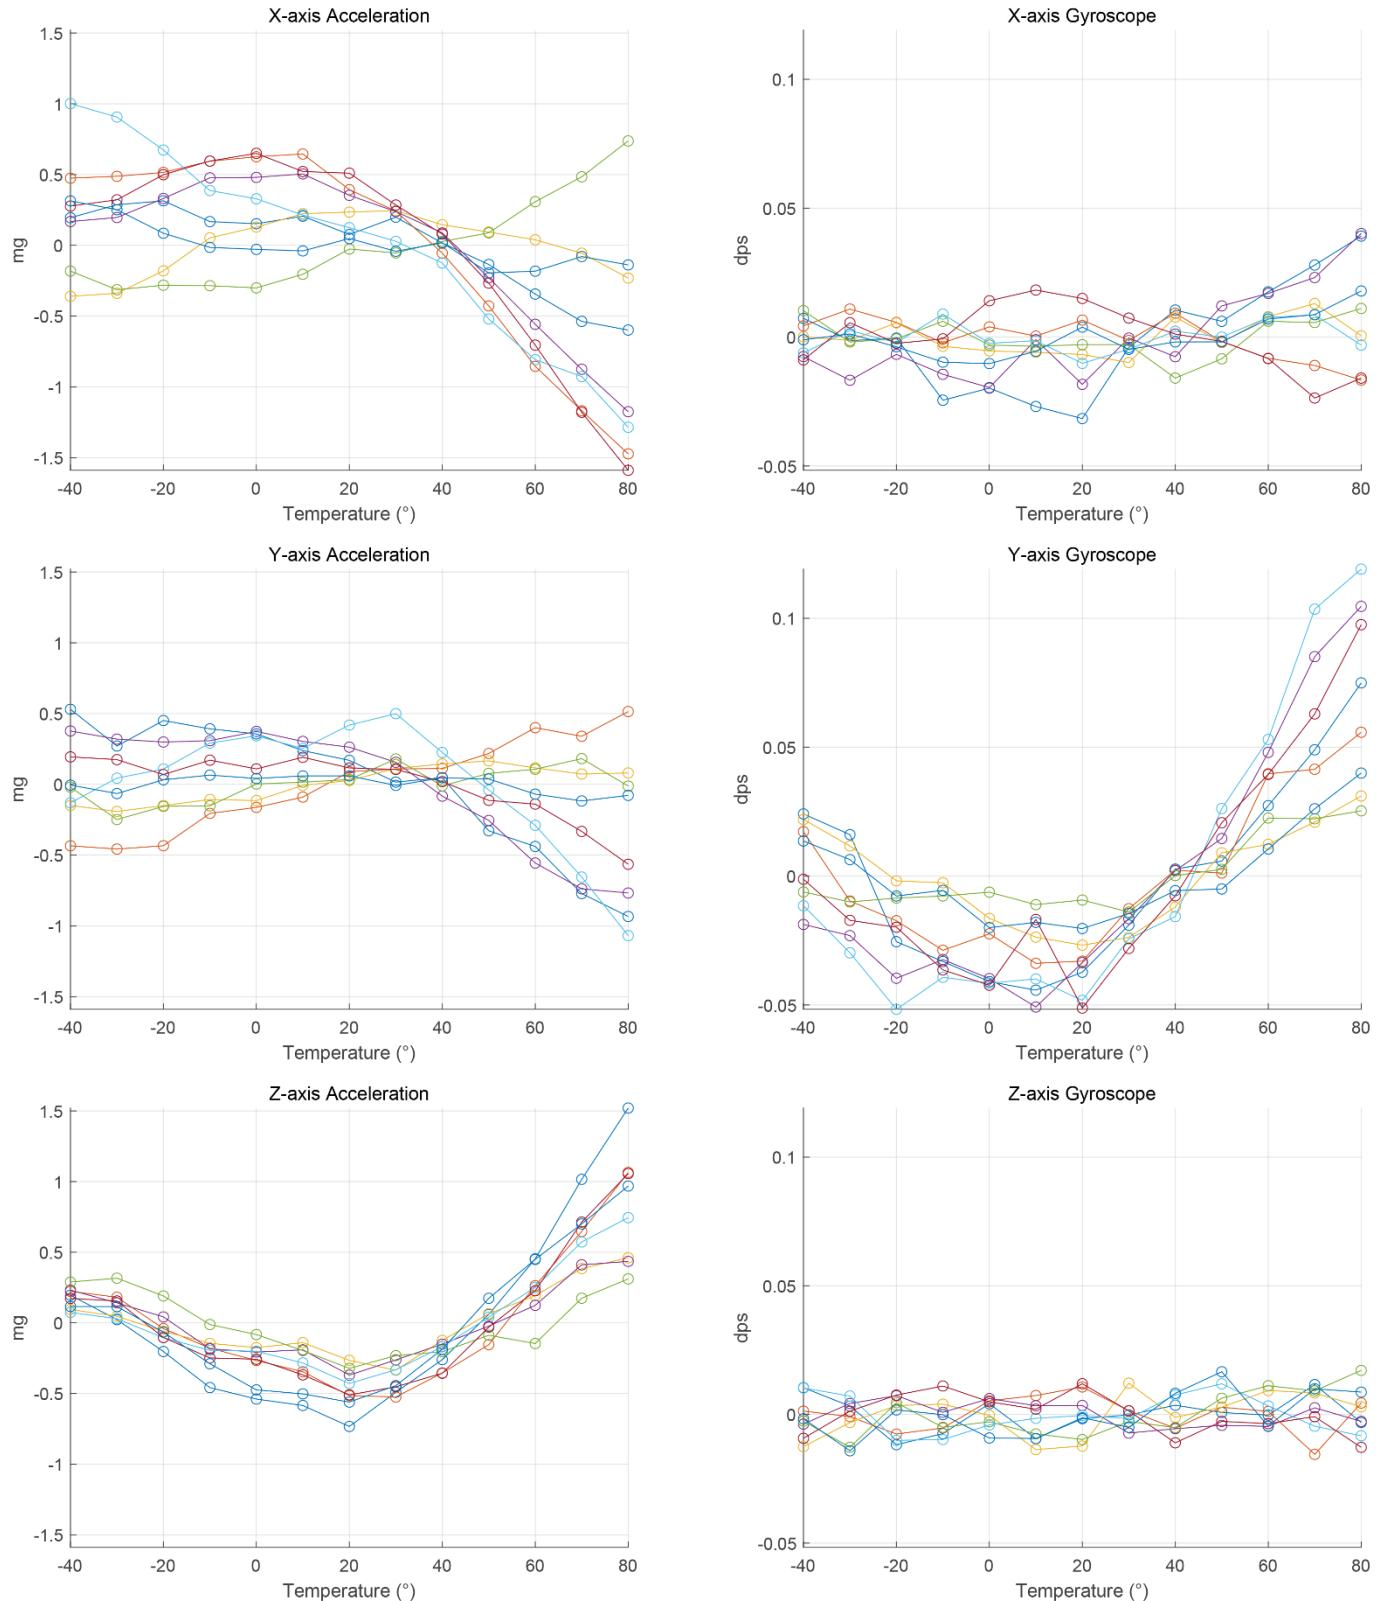

Figure 9: Accelerometer and Gyroscope Temperature Compensated Curve
**Note4:** The temperature rise slope is less than 3°C/min as measured by the temperature box turntable of the HiPNUC laboratory. For detailed data, please refer to the temperature compensation curve in Figure 9
**Note3:** The temperature rise slope is less than 3°C/min as measured by the temperature box turntable of the HiPNUC laboratory. For detailed data, please refer to the temperature compensation curve in Figure 9